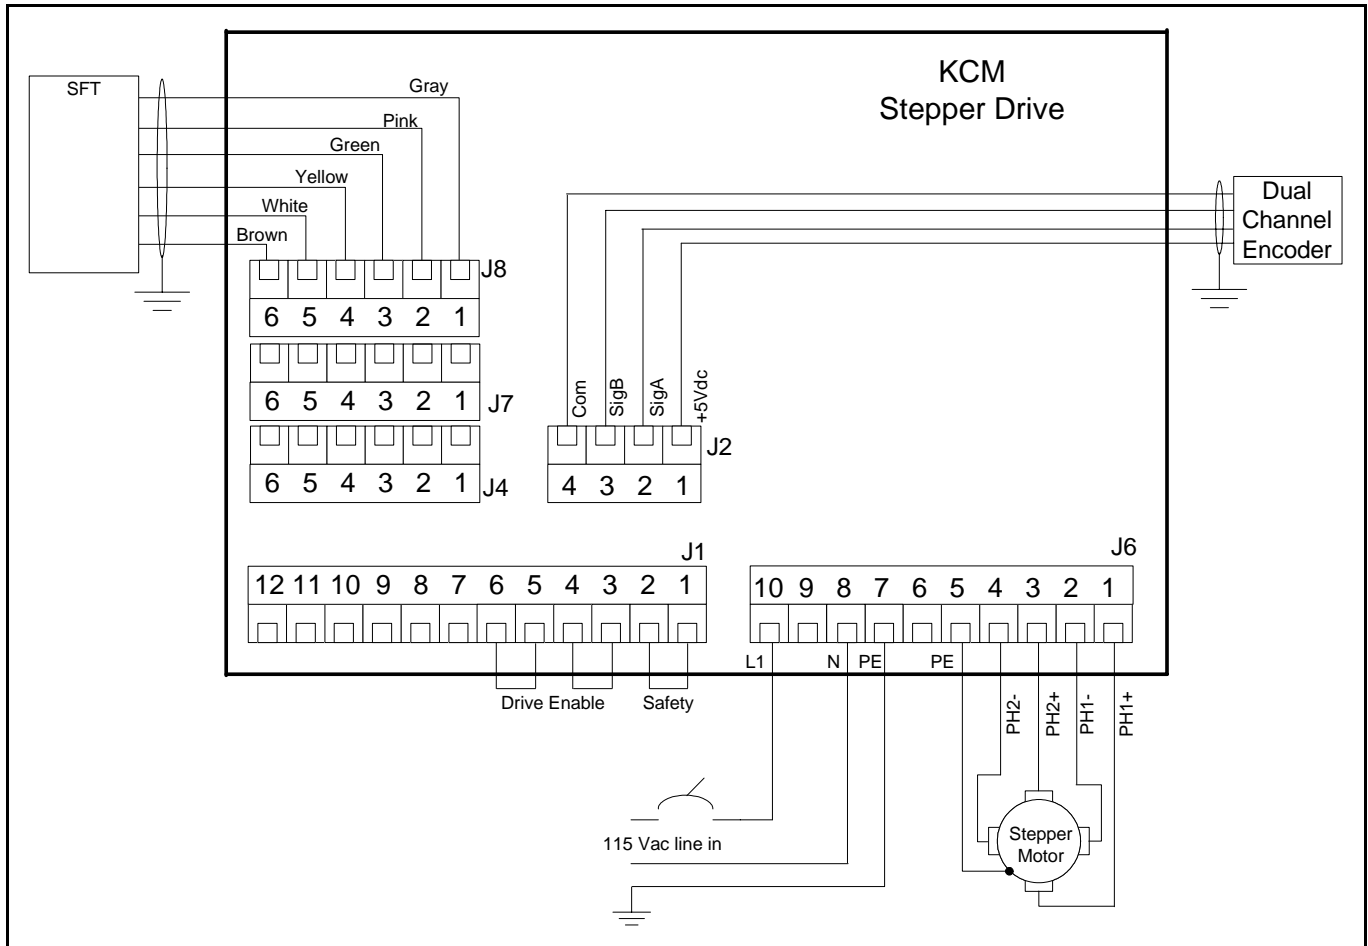

Fig. 12.10 KCM stepper drive field wiring example
- Not all terminal blocks are shown in this example.(Fig.12.10)